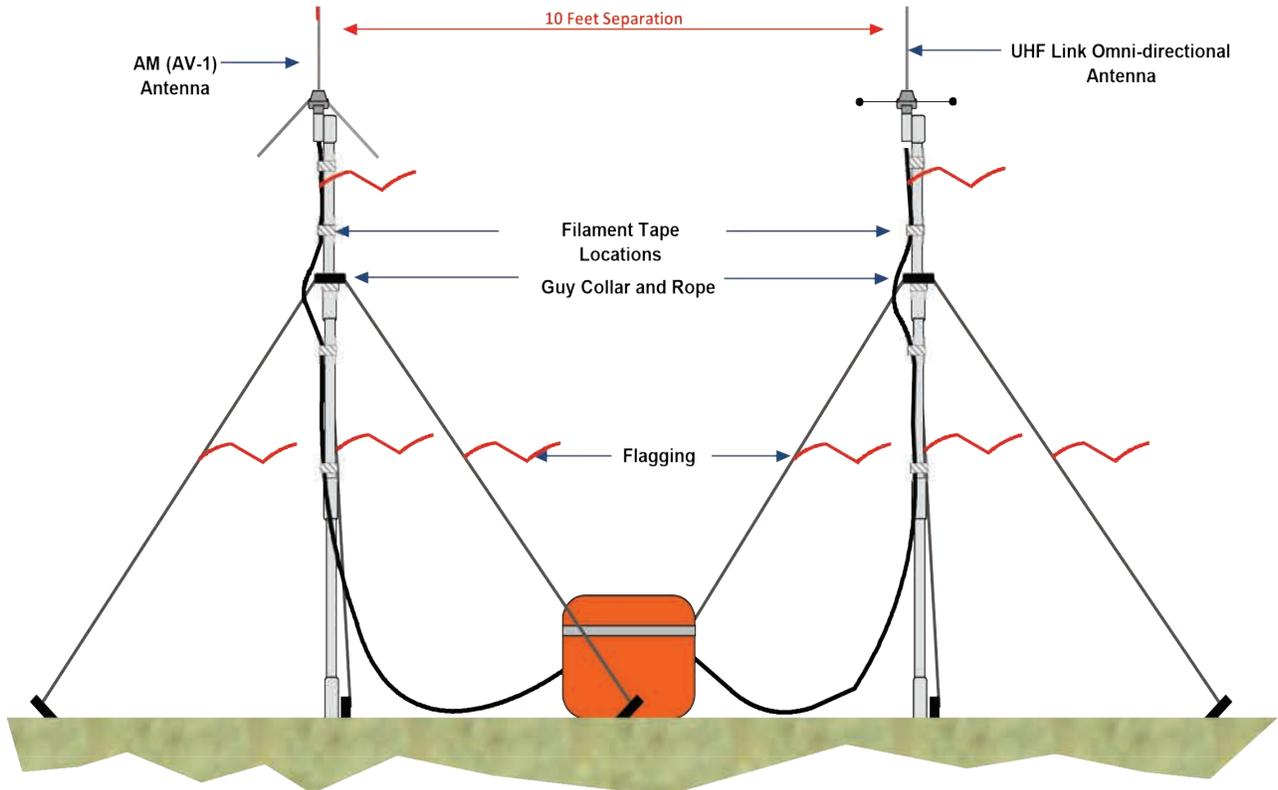

Figure 4:
1. Erect the AM AV-1 aircraft antenna according to the illustration. *(See Figure 4)*
2. Erect the UHF omni-directional antenna according to the illustration. *(See Figure 4)*